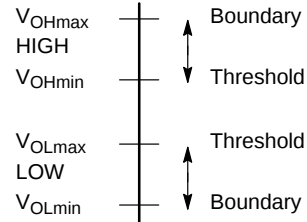

Figure 6. Output Logic Levels
**Output Levels** – Output signals may be differential or single-ended. AC characteristics for ON Semiconductor devices with ECL outputs are typically measured for an output termination of  $50\ \Omega$  to  $V_{TT}$  (the termination voltage equal to  $V_{CC} - 2.0\text{ V}$ ). HIGH and LOW output levels range between the boundary and threshold values for the respective HIGH and LOW input levels specified on data sheets. Output logic levels are shown in Figure 6.